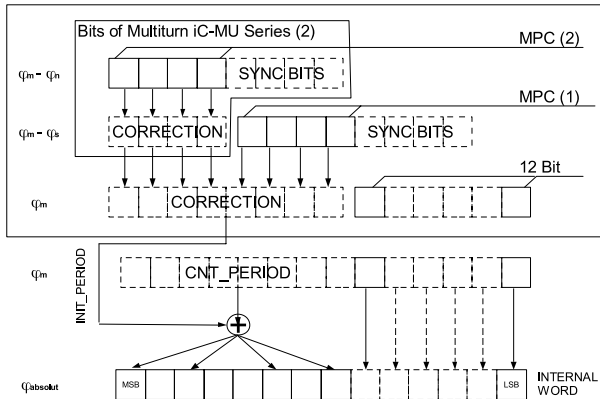

Figure 44: Principle of the synchronization of a 3-track Nonius system using 2 iC-MU Series without further multitrurn data
Figure 44 shows the principle of the synchronization of the data from iC-MU Series (2) to iC-MU Series (1).